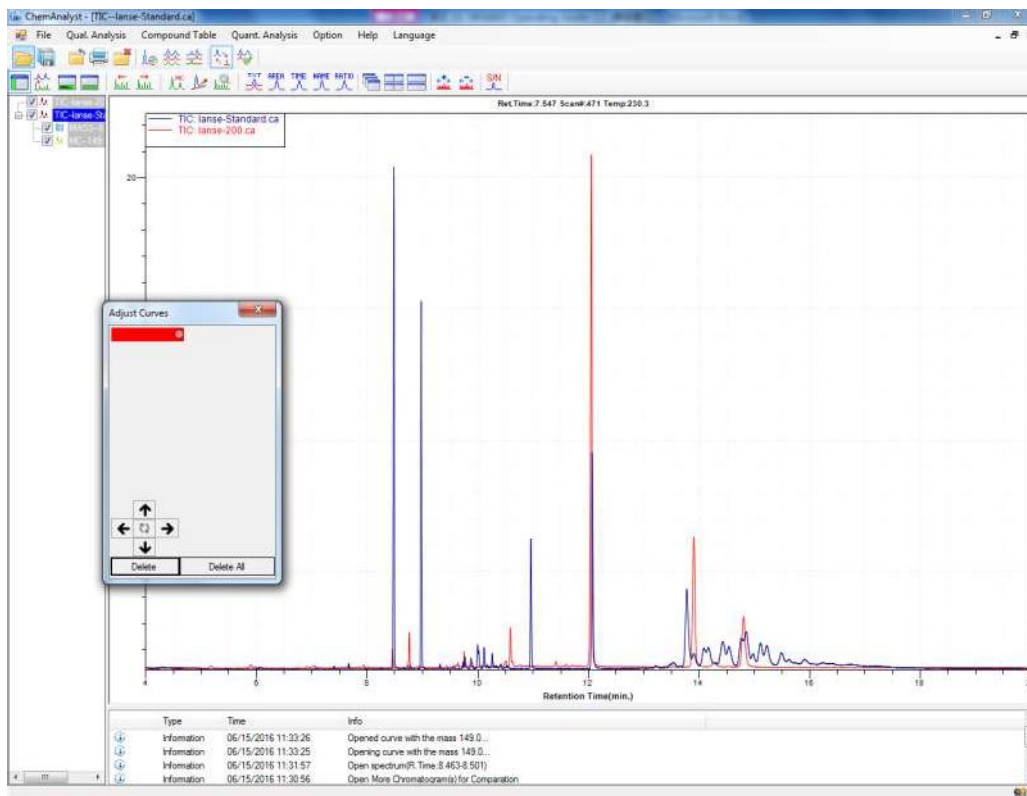

Figure 7-2 Retention Time Comparison
- (1) Click the  icon on the menu toolbar to open the standard and sample chromatograms and compare the retention times. If they are the same or similar, the sample peak may be the target peak, and then compare its mass spectrogram with the standard mass spectrogram, as shown in Figure 7-2.